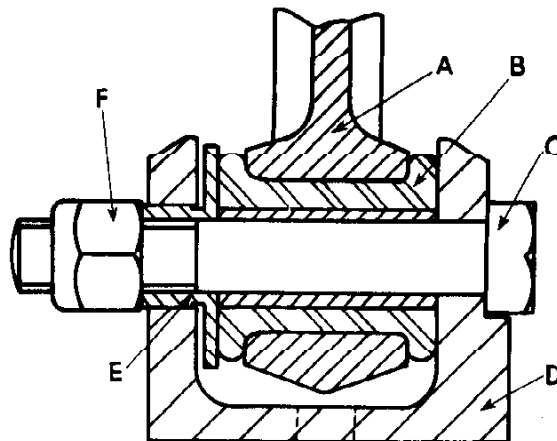

Figure M9.
- (i) That the lower wishbone "U" brackets are offered up to the inner ends of the bottom wishbone arms so the locating face for the head of the fulcrum bolt is positioned away from the set of the wishbone arm, i.e., toward the front and rear ends of the car for the front and rear wishbone arms respectively. Fig. M9.
- (ii) That the metal and rubber bush is pressed into the inner end of the lower wishbones and the spigotted thrust washer is fitted in the bore of the "U" bracket so its flat face is inside the lug opposite the bolt head. The wishbone arm and bush assembly is fitted inside the "U" bracket, the fulcrum bolt is fed through but the nut is not fully tightened until after the road spring has been fitted. A smear of soft soap will facilitate the entry of rubber components into the metal. Fig. M9.